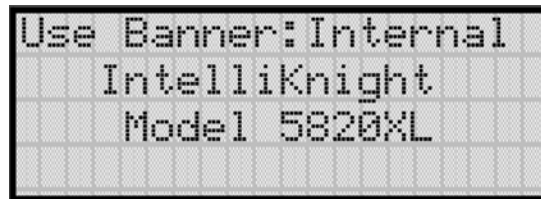

Figure 7-18 Internal Banner Message
5. Select  for Edit Banner. A screen similar to the one shown in Figure 7-18 will display.